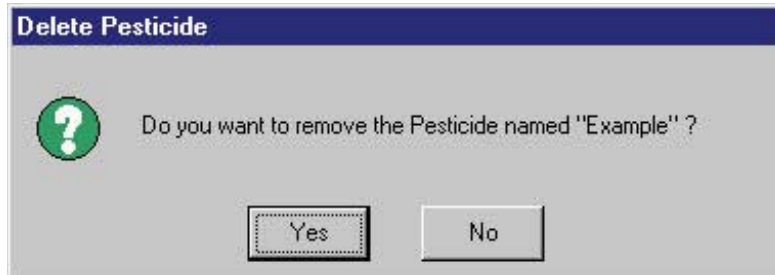

Figure 14.59
- c. A prompt box will appear, requesting the user to verify the delete (Figure 14.59).